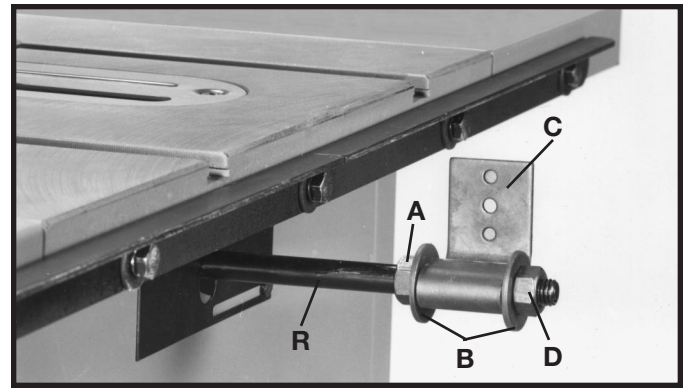

Fig. 26
2. Thread a M12x1.75 hex nut (A) onto the splitter support rod (R) Fig. 26, as far as it will go.
3. Place a 5/8" flat washer (B) Fig. 26, onto the splitter support rod (R).
4. Place the splitter bracket (C) Fig. 26, onto the splitter support rod (R).
5. Place a 5/8" flat washer (B) Fig. 26, onto the splitter support rod (R).
6. Thread a M12x1.75 hex nut (D) onto the splitter support rod (R) Fig. 26 and tighten the nut to hold the splitter bracket (C) in place.